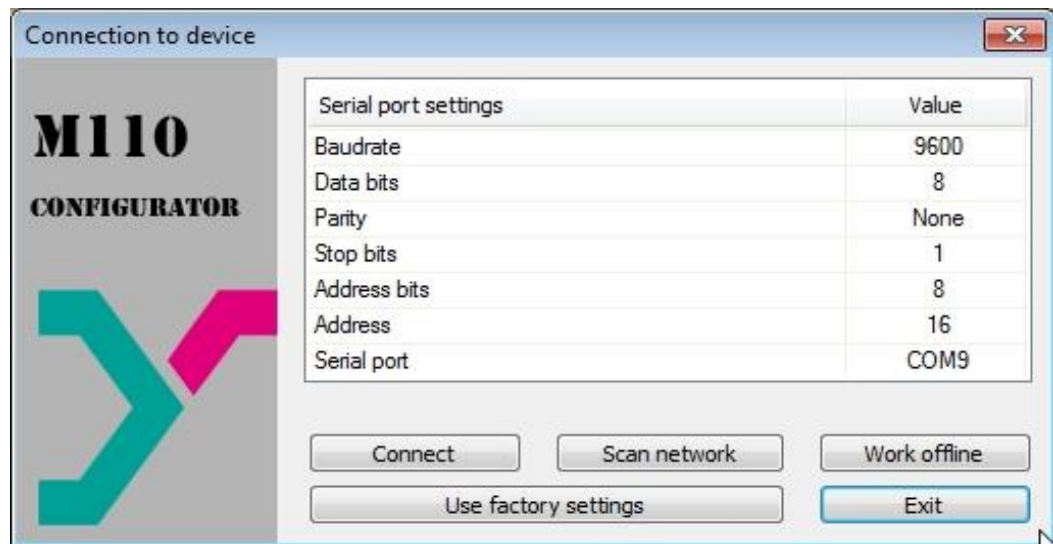

Fig. 7.1 Start window of configuration software
- In the window 'Connection to device' enter the values from the Table 7.1 or click the key 'Use factory settings' (see Fig. 7.1)